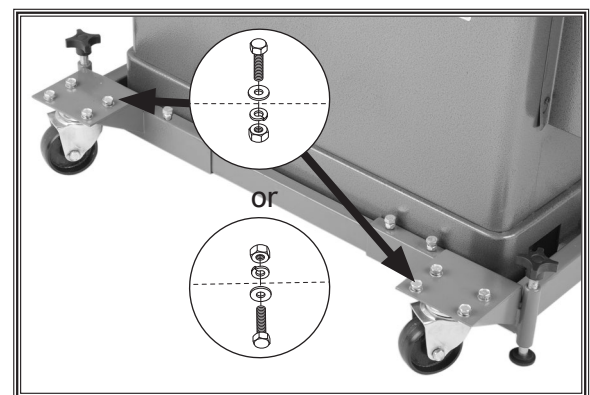

Figure 29. Swivel casters installed.
22. Mount each of the two swivel casters to a front corner bracket using (4) M8-1.25 x 16 hex bolts, 8mm flat washers, 8mm lock washers, and M8-1.25 hex nuts, as shown in **Figure 29**.